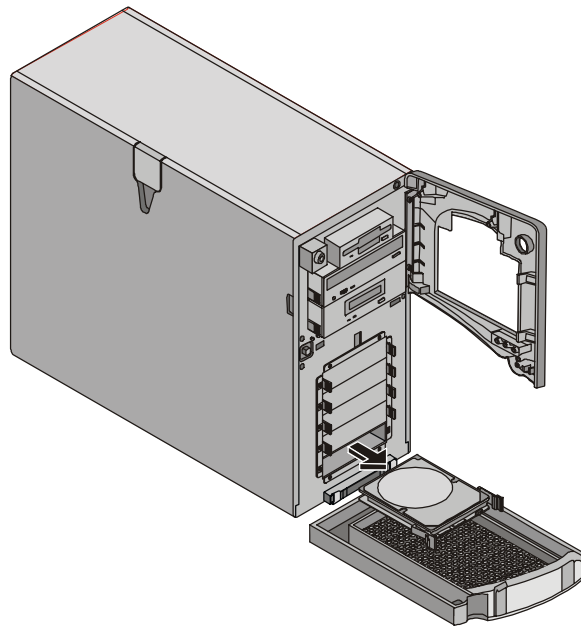

Figure 3-10. Removing Cold Swap Hard Drive
4. Use your hand to support the bottom of the drive, while you slowly pull the drive straight out. See Figure 3-10.